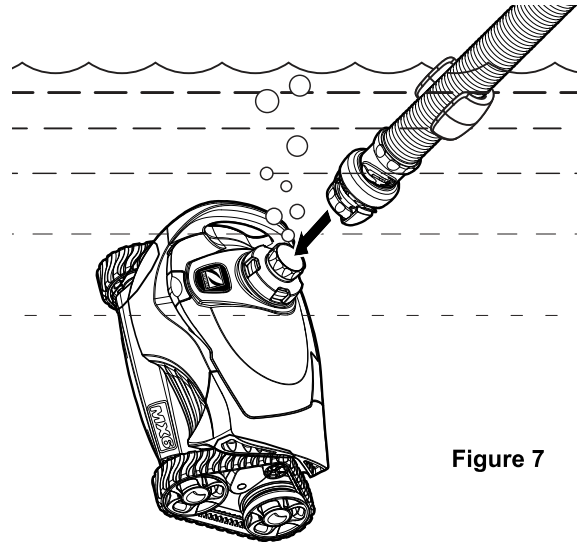

Figure 7
4. When bubbles stop coming from the cleaner, connect the hose by pushing the flow regulator valve onto the cleaner (Figure 7).